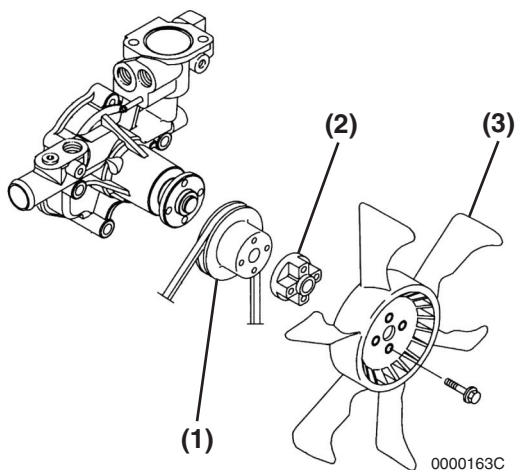

Figure 9-13
7. Reinstall the engine coolant pump V-pulley (**Figure 9-13, (1)**), spacer (**Figure 9-13, (2)**), engine cooling fan (**Figure 9-13, (3)**) and engine cooling fan guard (if equipped).